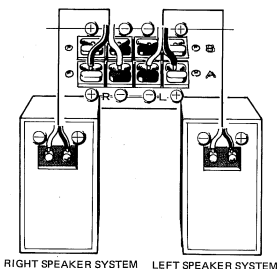

Fig. 1
- As shown in Fig. 1, the right channel speaker (seen from listening position) is connected to terminal R and the left channel speaker to terminal L.